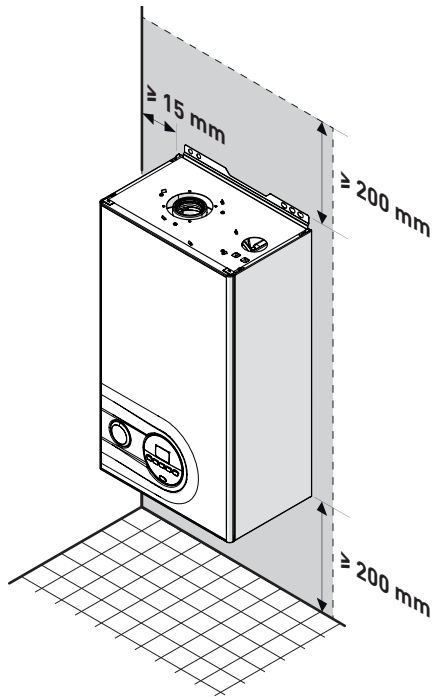

Fig. 15
- Observe the required clearances (see Fig. 15).